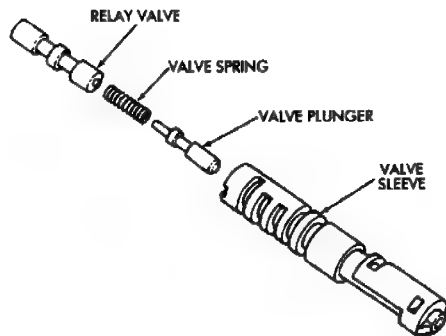

**Fig. 7 Removing/Installing Second Coast Modulator Valve**
(9) Install second coast modulator valve, spring and plug in valve bore. Press plug inward and install retainer (Fig. 7).